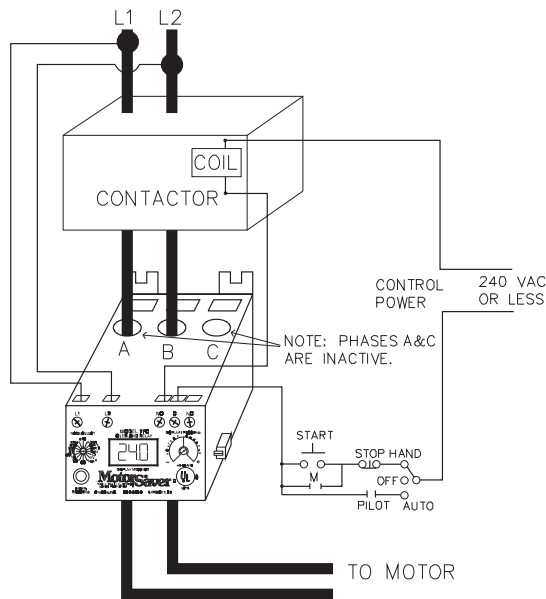

Figure No. 1: Typical Wiring Diagram
2. Insert the motor conductors through the round holes marked "A" and "B." Terminate the conductors at the line or load side of the magnetic contactor. **Note: For motors with full load amps less than 2.1 Amps**, loop the conductors through the hole marked "B" according to Table No. 1 below. The rectangular hole behind the hole marked "B" is provided for wire looping. (see Figure No. 1).
3. Connect the single-phase power from the line side of the contactor to "L1" and "L2." First insert a #12 - #18 AWG wire into the top of the terminal marked "L1" and tighten the screw on the front of the overload relay. Then, connect the other end of the wire to the line side of the contactor. Repeat these two steps for "L2." (see Figure No. 1).
4. Connect the output relay to the circuitry to be controlled (see Figure No. 1). To control a motor, connect the normally open contact in series with the magnetic coil of the motor starter as shown. To sound an alarm, connect the normally closed contact in series with the alarm (not shown).